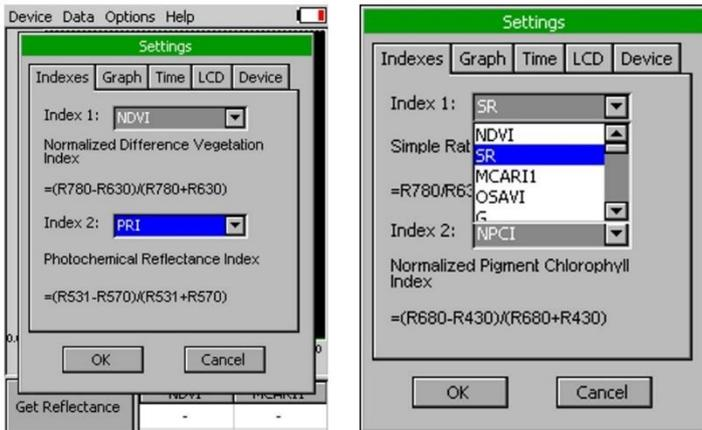

Fig. 8 Settings - Indices selection.
- **Indices** - Select indexes to be calculated and displayed on the main screen (Fig. 8).